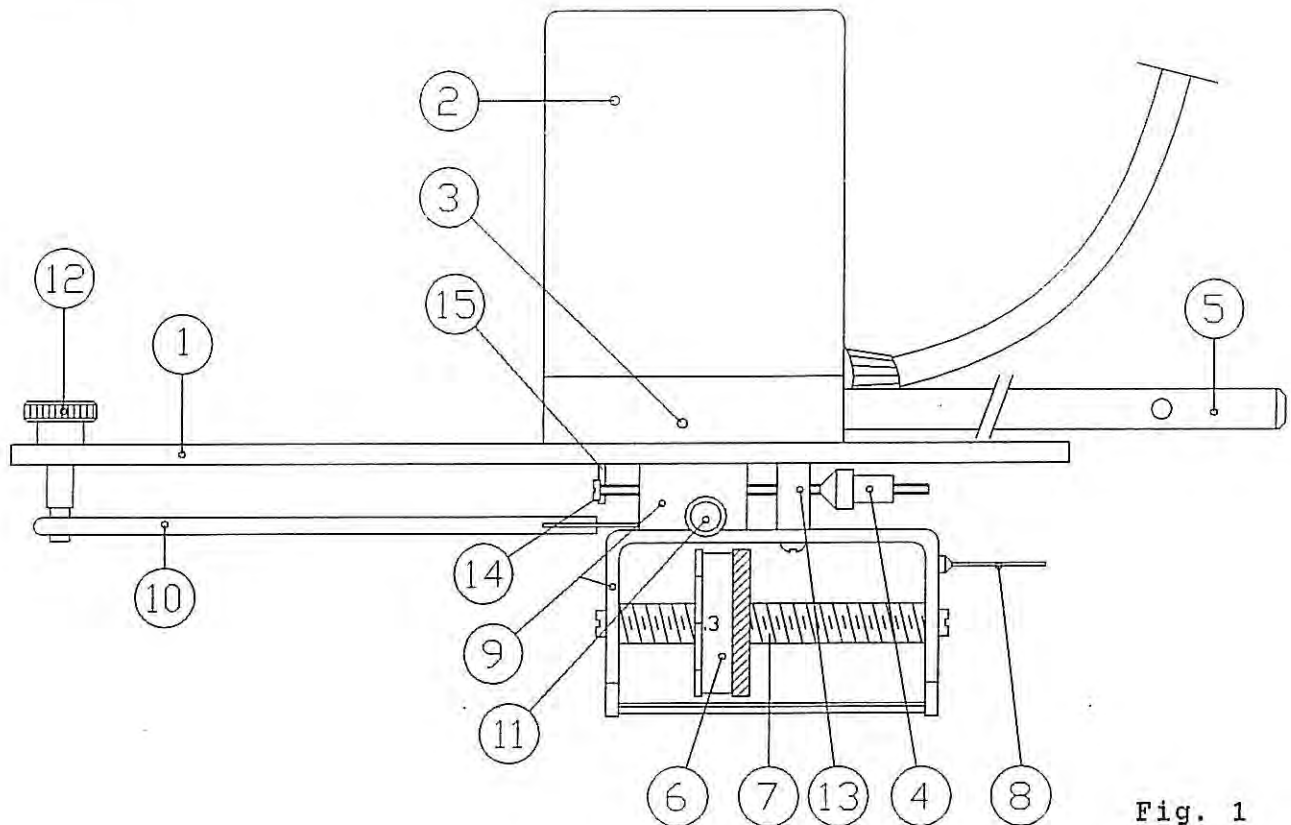

Fig. 1
The tapered tube of carbon fibre (10) (see picture and figure 1) may recall the lever arm of the UGO BASILE isometric transducers. However, instead of being mounted on a steel plate to which the strain gauges are attached, the lever arm pivots on the shaft of a Hall effect motion transducer of original design.
7001 Transducer Handle (5, see fig. 1)